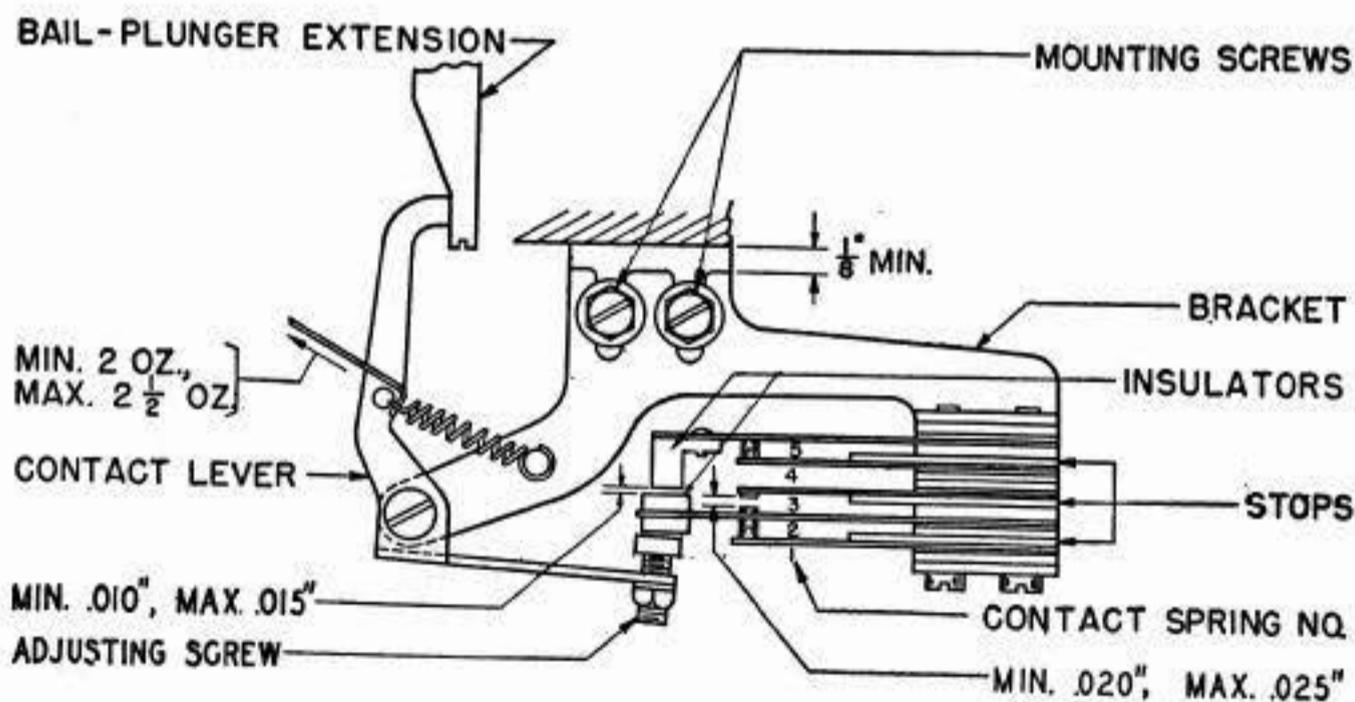

Fig. 71
(a) **No. 4 Contact Spring:** With its stop parallel to the mounting surface and the No. 5 contact spring held away from the No. 4 contact-spring, it should require Min 1-1/2 oz., Max 2-1/2 oz. to separate each section of the No. 4 contact spring from its stop. **Fig. 71**
(b) **No. 5 Contact Spring:** With the insulator tip of the No. 2 contact spring held away from the insulator tip of the No. 5 contact spring, it should require Min 2 oz., Max 3 oz. to separate the contact of the No. 5 spring from the No. 4 spring contact. **Fig. 71**
(c) **No. 1 Contact Spring:** With its stop parallel to the mounting surface and the No. 2 contact held away from the No. 1 contact, it should require Min 1-1/2 oz., Max 2-1/2 oz. to separate the No. 1 contact spring from its stop. **Fig. 71**
(1) With the No. 5 contact spring tip insulator blocked away from the No. 2 contact spring tip insulator and, if necessary, the No. 3 spring contact held away, it should require Min 2 oz., Max 3 oz. to separate the No. 2 and No. 1 contacts. **Fig. 71**
(1) It should require Min 1 oz., Max 2 oz. to separate the No. 3 contact spring from its stop. **Fig. 71**
Note: Remountg the universal-contact assembly on the base bracket. There should be at least 1/8" clearance between the top edge of the universal-contact bracket and the milled section on the base casting. **Fig. 71**
.020", Max .025" between the No. 5 and No. 4 spring contacts. **Fig. 71**
2.139 Universal Contact-Lever Spring: It should require Min 2 oz., Max 2-1/2 oz. to pull the spring to position length when the universal contact lever is resting on the high camming surface of the bail-plunger extension. **Fig. 71**